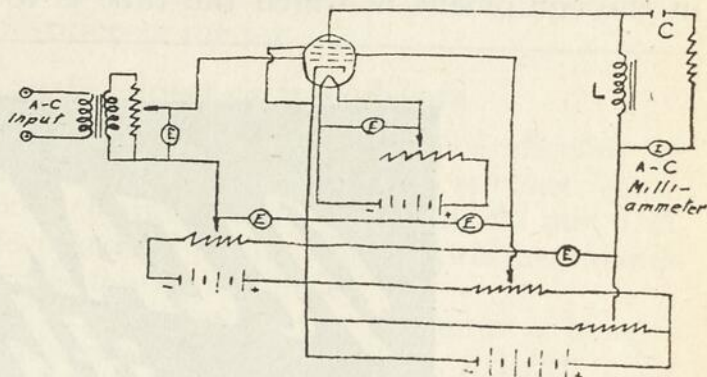

Fig. 21
Figure 21 shows the fundamental circuit of a power output test for a class A operation of tubes. The diagram illustrates the method for a pentode. The a-c output voltage developed across the plate-load impedance (L) is indicated by the current meter. The current meter is isolated as far as the d-c plate current is concerned by the